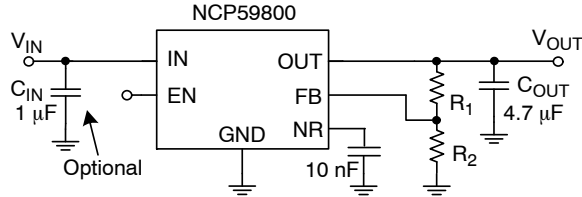

Figure 24. Typical Application Schematics
The NCP59800 regulator is equipped with Noise Reduction pin (NR) for noise sensitive applications. A noise reduction capacitor ( $C_{NR}$ ) at the NR pin bypasses noise generated by the bandgap reference. This family of regulators offers sub-bandgap output voltages, current limit, and thermal protection, and is fully specified from  $-40^{\circ}\text{C}$  to  $+125^{\circ}\text{C}$ , assuming resistors with zero error. For the actual design, pay attention to any resistor error factors. Figure 24 gives the Typical Application Schematics.